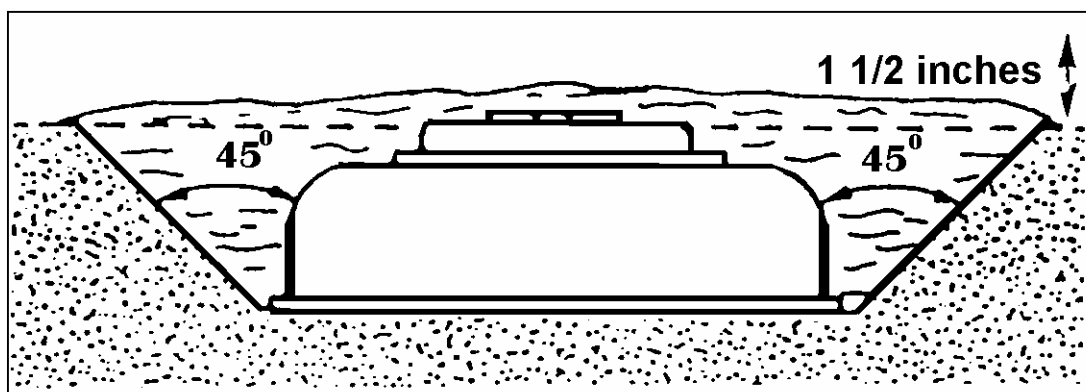

Figure 052-192-1107-6
- b. Dig the sides of the hole at a 45-degree angle to prevent vehicles from bridging the mine (Figure 052-192-1107-6).